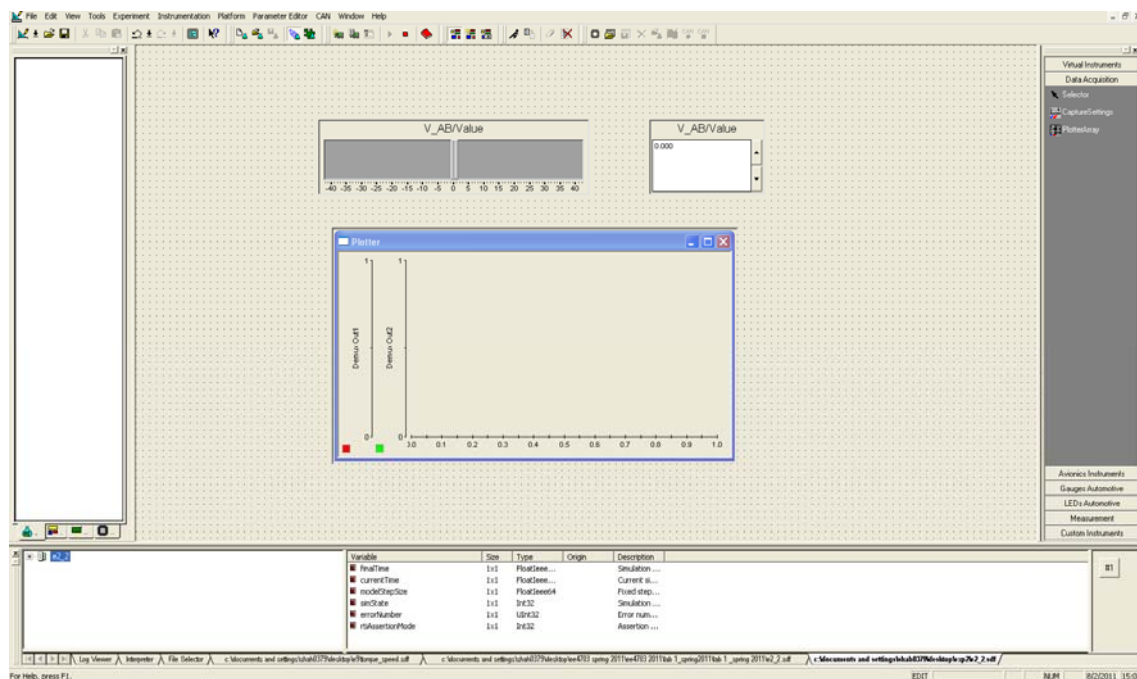

Figure 2.8: Control Desk layout for Switchmode DC Converter
- Now appropriate variables will be assigned to the parts. Under **Model Root**, locate **V_AB** and select it. It will have a parameter called **Value** (right side panel) which corresponds to the value of the **Constant** block **V_AB** in the real-time Simulink model. Drag and drop **V_AB/Value** into the **Slider** and also on **Numerical Input** one-by-one. Now, the value of **V_AB** can be changed in real-time using these two parts. Similarly, to observe the duty ratios in real-time, assign the two outputs (**Out1** and **Out2**) of the **De-mux** (the one following the **Gain2** block) to the plotter. The experiment is now ready; it should look as shown in Fig 2.8. Start the experiment by clicking the Start button and select the animation mode (Fig 2.8)